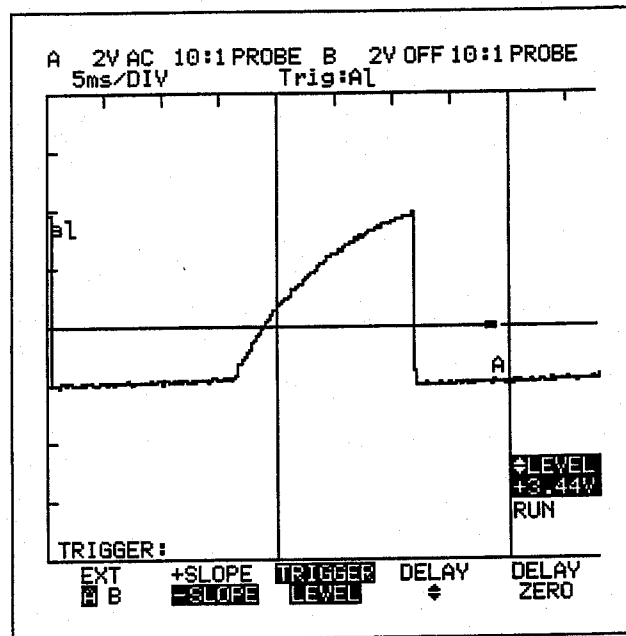

Figure 6.13
- Press **SOFT KEY 2** to select -SLOPE (see Figure 6-13).